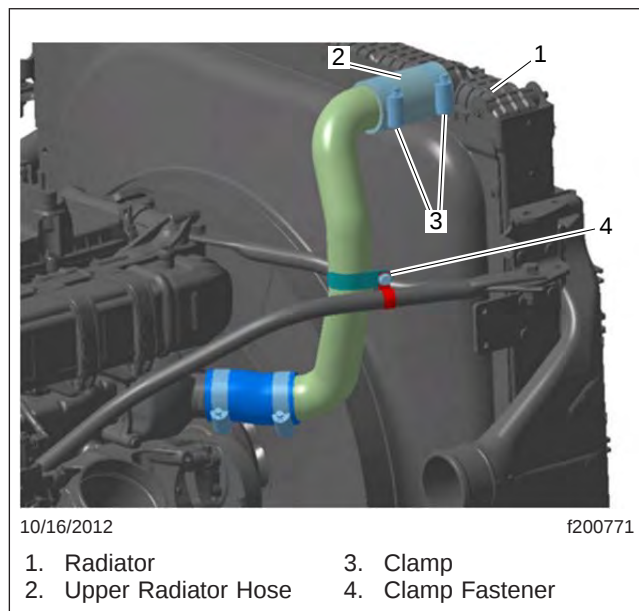

Fig. 5, Upper Radiator Hose Installation
8. Remove the upper radiator hose. See Fig. 5.
25. Install the new upper radiator hose. See Fig. 5.